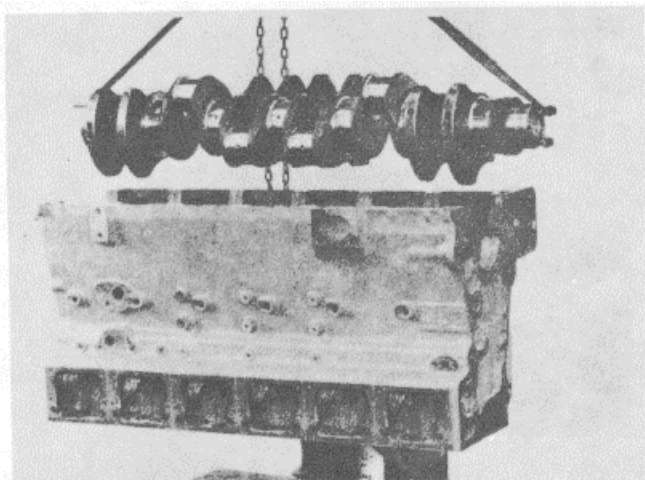

Figure 16B-58. Lift the Crankshaft from the Cylinder Block
5. Use a lifting strap, Figure 16B-58, or hooks protected with rubber hose to lift the crankshaft from the cylinder block.